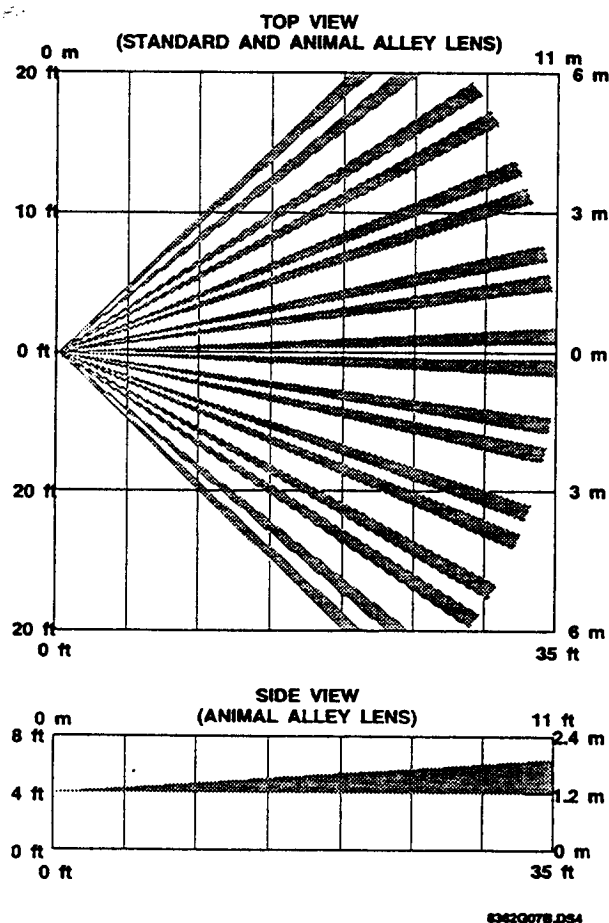
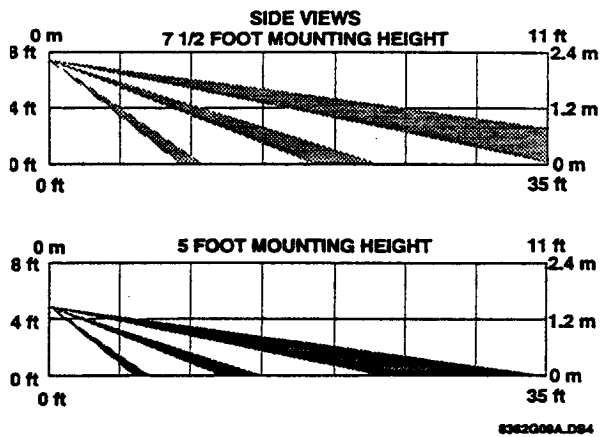

Figure 13. Top View Shows Both Standard & Animal Alley Lens Coverage Area. Side View Shows the Coverage Area Using the Animal Alley Lens
Figure 14. Side Views Show the Differences in the Coverage Area when using the standard lens mounted at Different Heights.
1. For best coverage, mount the sensor from 5 to 8 feet high in the corner of the area you want to protect. See the Animal Alley lens guidelines for mounting the Animal Alley lens. Higher mounting provides better range (up to 35 feet), and lower mounting provides better protection close to the motion sensor. See Figure 13. and Figure 14.
Surface, Corner, or Inclined Mounting, see Figure 14. showing these 3 mounting positions: